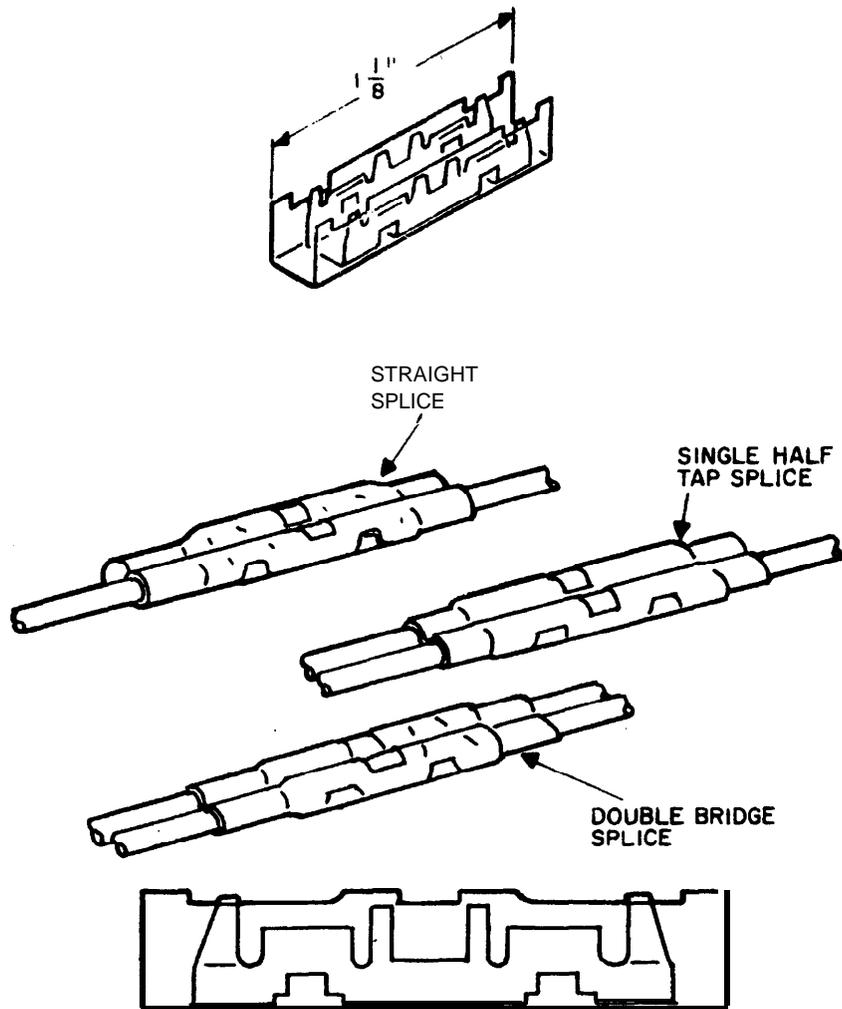

Figure 2. Picabond Connector Shown Joining Various Combinations of Conductors.
2.01 The Picabond connector is a channel shaped, plated brass material, insulated with a mylar covering. Metal tangs located in the bottom of the connector are used to pierce the conductor insulation when the connector is properly compressed with the VS-3 tool. Figures 2 and 3 illustrate the connector and its application on various combinations of conductors.